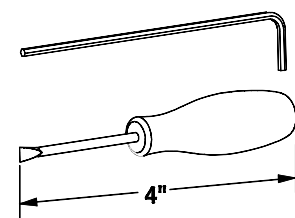

Figure 10.1: Gas Valve Throttle Adjustment Locations
**Throttle Input Adjustments** - The boiler is equipped with a throttle/input adjustment screw, located on the gas valve. The throttle screw is used to adjust the flow of gas leaving the gas valve and entering the venturi to be mixed with the combustion air. By turning the throttle screw clockwise, the flow of gas is reduced and the combustion becomes leaner, thus reducing the concentration of CO2 in the flue gases. To increase the CO2 the throttle screw must be turned counterclockwise, thus increasing the flow of gas from the gas valve to the combustion air stream. See Figure 10.1 for throttle/input adjustment screw location.